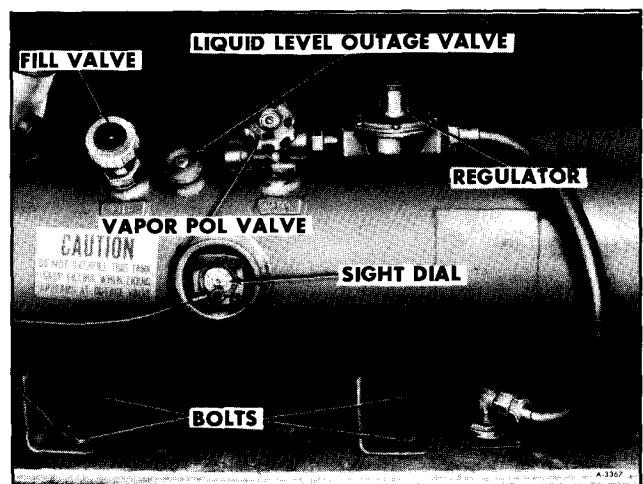

Figure 8—L.P. Gas Tank Valves
FILL VALVE (FIGURE 8)
REMOVAL (FIGURE 8)
VAPOR POL VALVE (FIGURE 8)
4. Remove four nuts and bolts securing tank to vehicle (See figure 8). Ground wire is under one of these bolts.